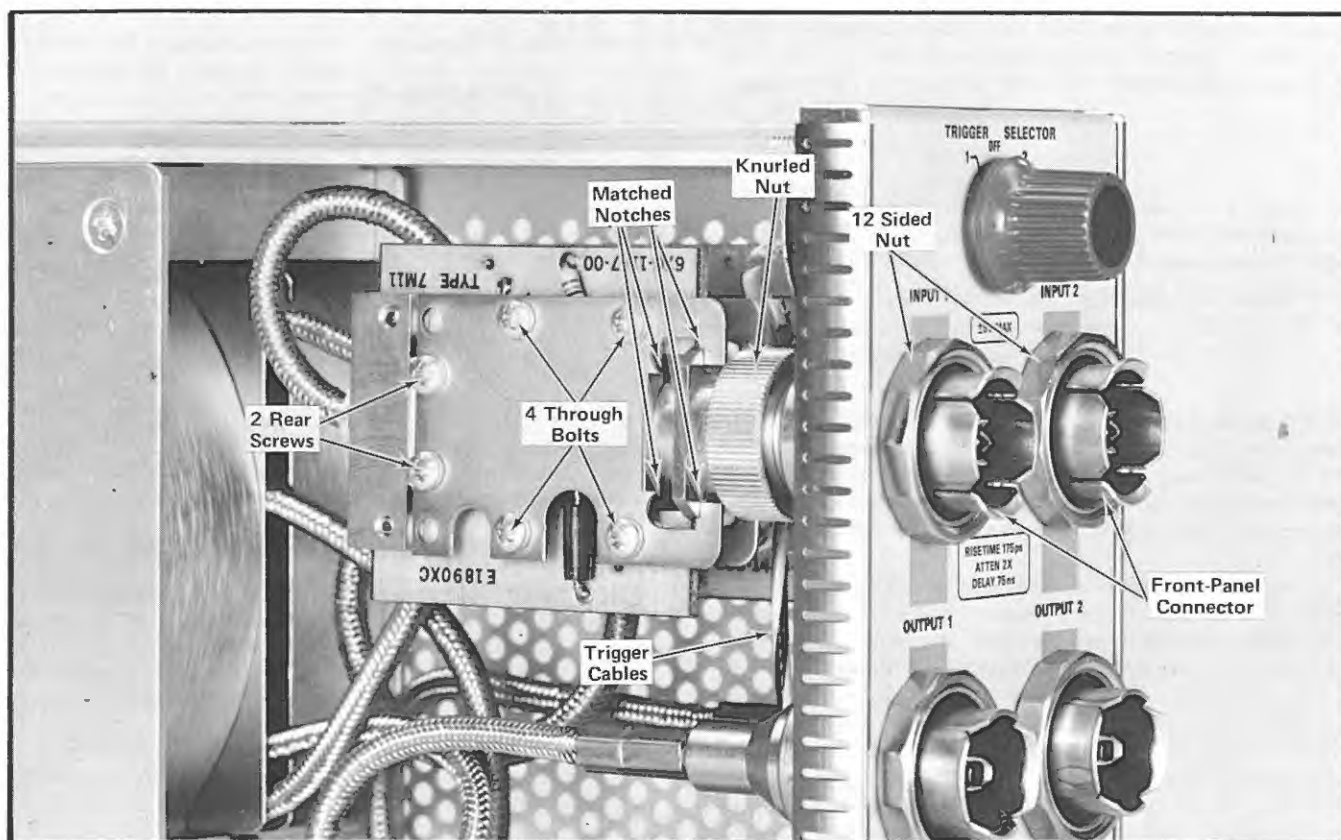

Fig. 4-2. Compensation network as installed in the 7M11.
**Compensation Network.** Use the following procedure for removing and replacing a compensation network circuit board (see Fig. 4-2).